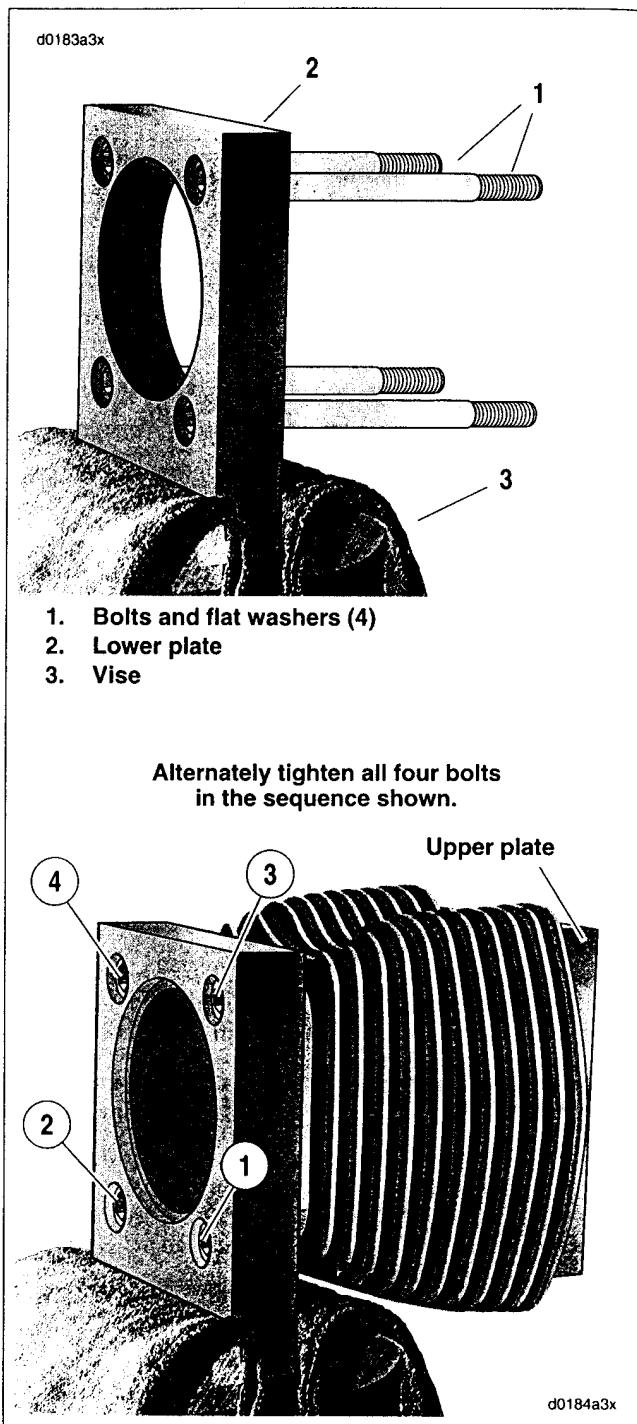

Figure 3-111. Attaching Cylinder Torque Plates
1. See Figure 3-111. To simulate an assembled cylinder for accurately measuring cylinder taper and out-of-round conditions, as well as for boring, honing or deglazing, obtain the CYLINDER TORQUE PLATES (Part No. HD-42324-A). Install the torque plates as follows:
- d. Slide four bolts with flat washers (1) all the way through holes of lower plate (2) until washers contact outward side.
- g. Tighten the bolts to 84-108 in-lbs (9.5-12.2 Nm) in the sequence shown in Figure 3-111.
- i. Using a grease pencil, mark a straight line on one of the bolts continuing the line over onto the lower plate. Repeat step for remaining three bolts. Using the marks as a guide, turn each bolt 1/4 turn or 90 degrees. Be sure to tighten the bolts in the sequence shown in Figure 3-111.